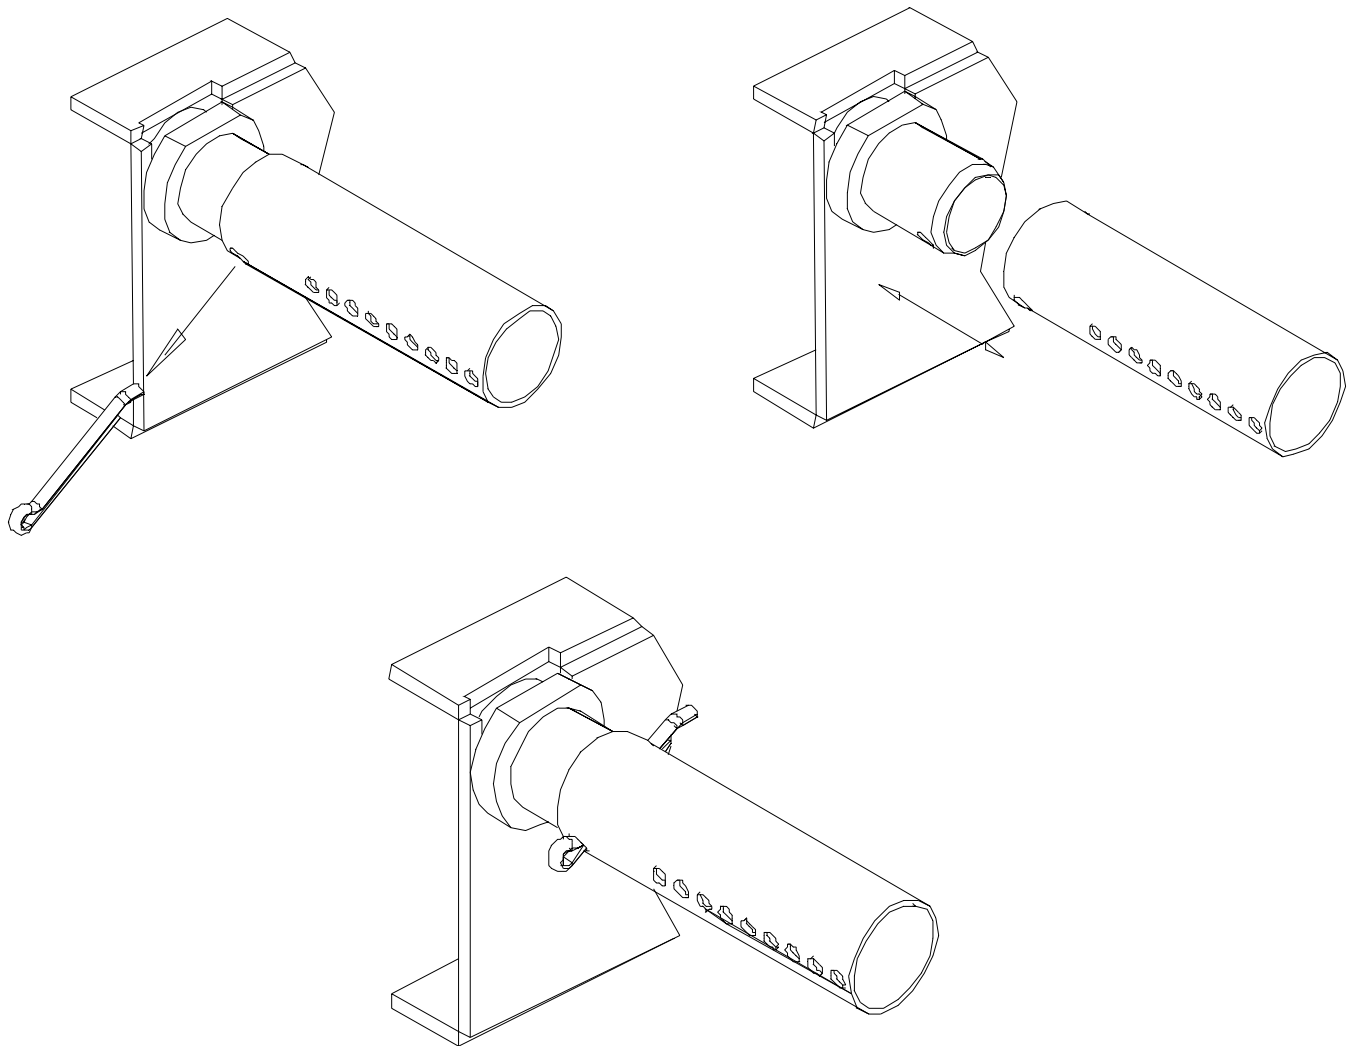

Figure4 – Secondary Air Tube replacement
3.5 Secondary Air Tube Replacement (See Figure 4)